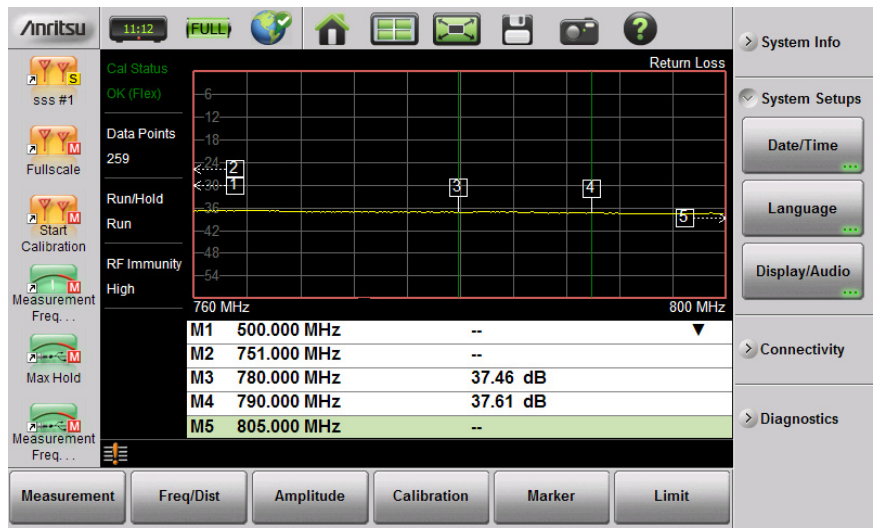

Figure 3-29. Markers 1, 2, and 5 are Out of Range
- If the frequency (F1 or F2) or distance (D1 and D2) parameters are moved inside a current marker location, the out range (---> or <----) indicator is displayed and marker values in the Table are blanked (--). See Figure 3-29 for an example of markers beyond the current span.